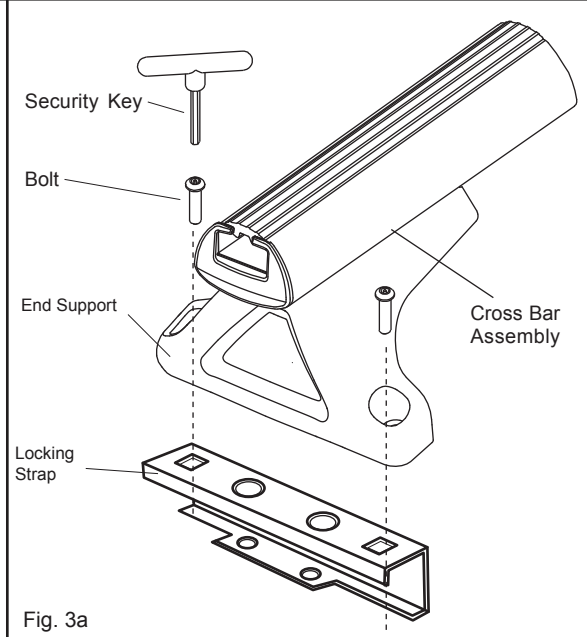

Fig. 3a
- Place cross-bar assembly onto appropriate Locking Straps. Loosely fit Special Bolts through End Support and engage Cage Nut. Tighten two or three turns with key supplied. Go to other side of vehicle and fit other End Support the same. (Fig. 3a)